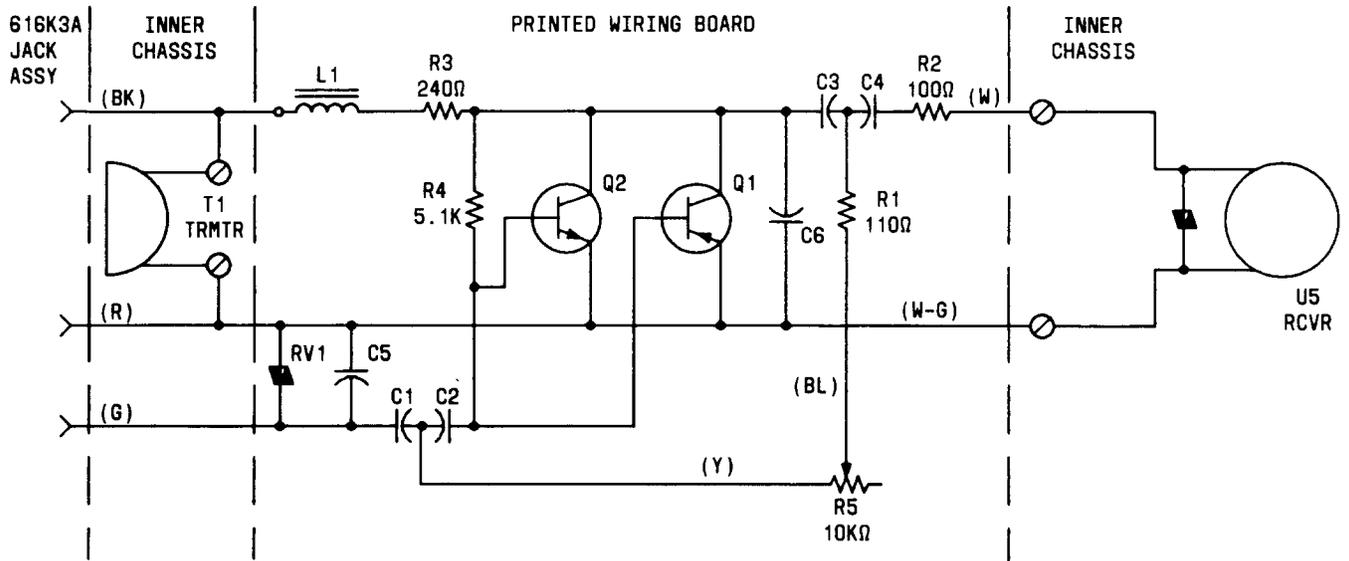

Fig. 10—▶ Schematic Diagram of K6-Type Impaired Hearing Handset
3.03 Refer to Fig. 10 for electrical schematic diagram of K6A and K6C handsets.